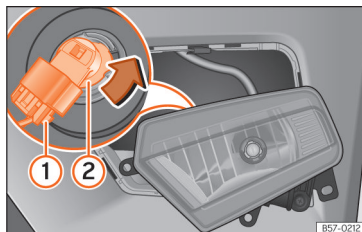

Fig. 58 Front fog light: remove the bulb holder
- Remove the metal clip situated on the upper part of the fog light by pulling away from the vehicle ③ **B** and extract the fog light.
- Remove connector »» **Fig. 58** ① from the bulb.
- Turn the bulb holder »» **Fig. 58** ② anticlockwise and pull.